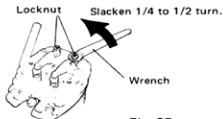

Fig. 37
- 1) Carefully slacken the locknut on one rocker arm with the special offset wrench supplied. (Approx. $\frac{1}{4}$ to $\frac{1}{2}$ turn. See Fig. 37.)